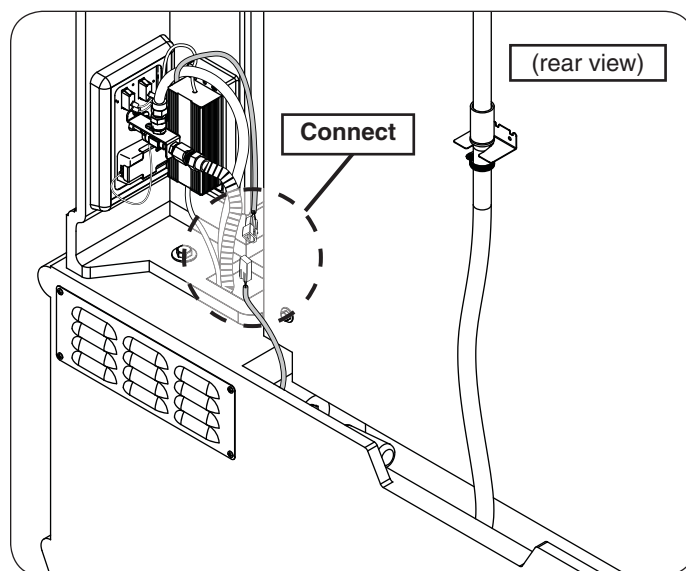

Fig. 24-2 Connect pump wire
5. Connect the loose wire on the pump to the loose wire coming from the main wire harness (see Fig. 24-2).